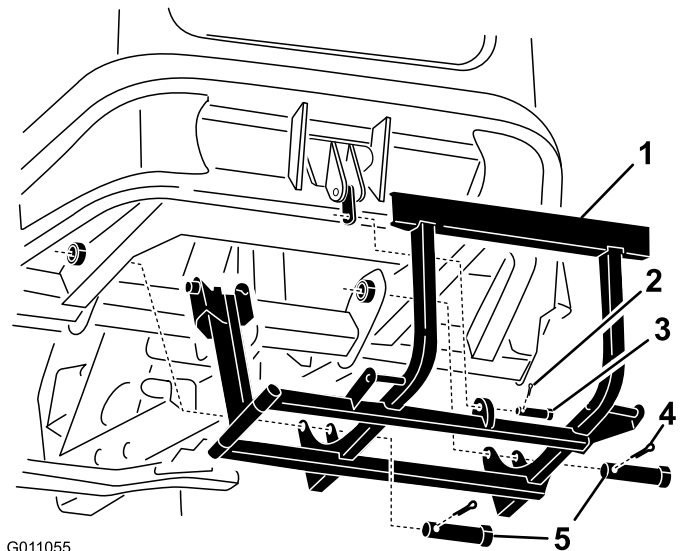

Figure 9
2. Install the bagger mounting bracket to the bottom of the machine with 2 large clevis pins and 2 large cotter pins (Figure 9).
3. Rotate the bagger mounting bracket up and attach it to the link with a small clevis pin and small cotter pin (Figure 9).